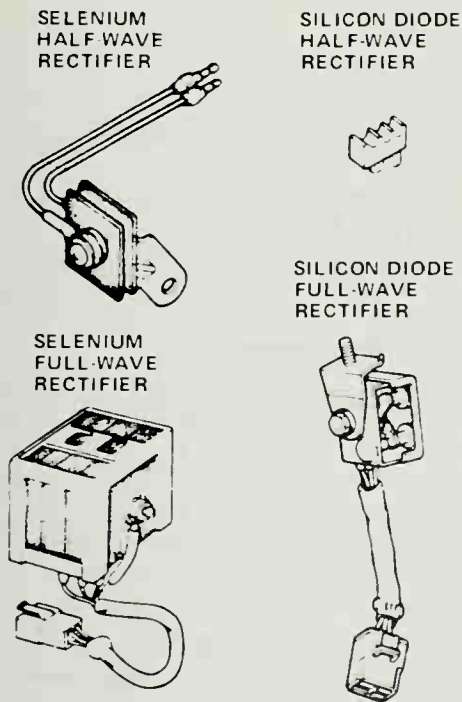

Figure 20-15. A rectifier changes AC current to DC. (Honda Motor Co., Ltd.)
As mentioned above, the alternator produces only alternating current and the battery can only be charged by direct current. Consequently, a device called a rectifier (Figure 20-15) that converts alternating current (AC) to direct current (DC) must be installed in the circuit between the alternator and the battery.